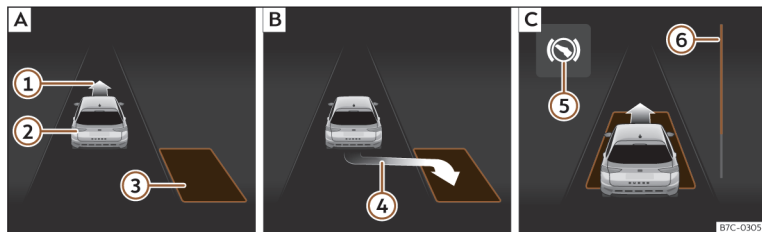
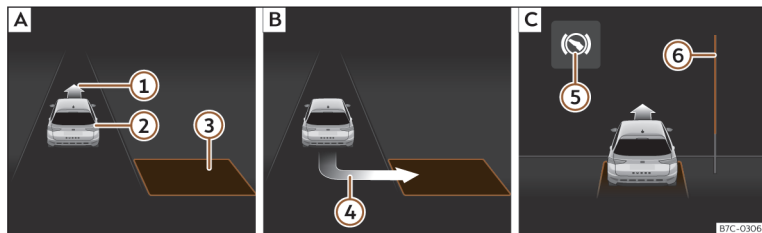

Fig. 173 On the instrument panel display: parallel parking. **[A]** Finding a parking space. **[B]** Parking position. **[C]** Manoeuvring.
Fig. 174 On the instrument panel display: angle parking. **[A]** Finding a parking space. **[B]** Parking position. **[C]** Manoeuvring.
- Look at the display on the instrument panel to see if the space has been detected as “appropriate” and if the correct position for parking has been reached >>> **Fig. 173 [B]** or >>> **Fig. 174 [B]**. The space is considered
- Reverse until the continuous ParkPilot signal sounds; **OR:** reverse until the indication to move forward appears on the instrument panel display >>> Fig. 173 [C] or >>> Fig. 174 [C]; **OR:** reverse until the **Park Assist finished** message appears on the instrument panel display. The progress bar ⑥ indicates the distance to cover >>> page 258.
- Press the brake pedal until the parking assist system completes the steering wheel turns; **OR:** until the symbol (S) goes out on the instrument panel screen.
- Move forward until the continuous ParkPilot signal sounds; **OR:** move forward until the reverse indication appears on the instrument panel display. The Park Assist system steers the vehicle forward and back until it centres it in the space >>> Fig. 173 [C] or >>> Fig. 174 [C].
The progress bar >>> Fig. 173 ⑥ and >>> Fig. 174 ⑥ on the screen of the instrument panel displays the relative distance to be covered. The greater the distance, the fuller the progress bar. When driving forward, the content of the progress bar decreases upwards, and when reversing, it decreases downwards.